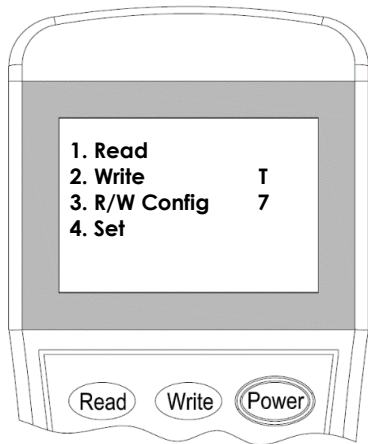

Figure 10
3. Switch-on the programmer, then press button **“3”** to enter to Configuration mode (Figure 10).